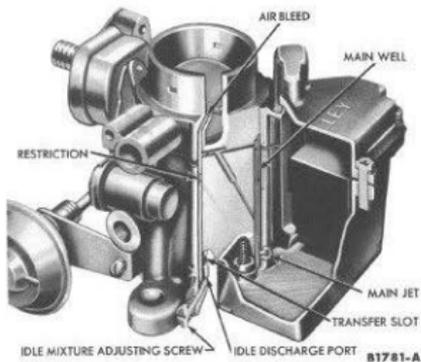

FIG. 14—Idle Fuel System
**Idle Fuel System.** Fuel for idle speed operation passes through the main jet located in the fuel bowl, through passages and restrictions, to the transfer and discharge holes. An air bleed prevents siphoning and helps break up the raw fuel for a more complete mixing with the air (See Fig. 14).